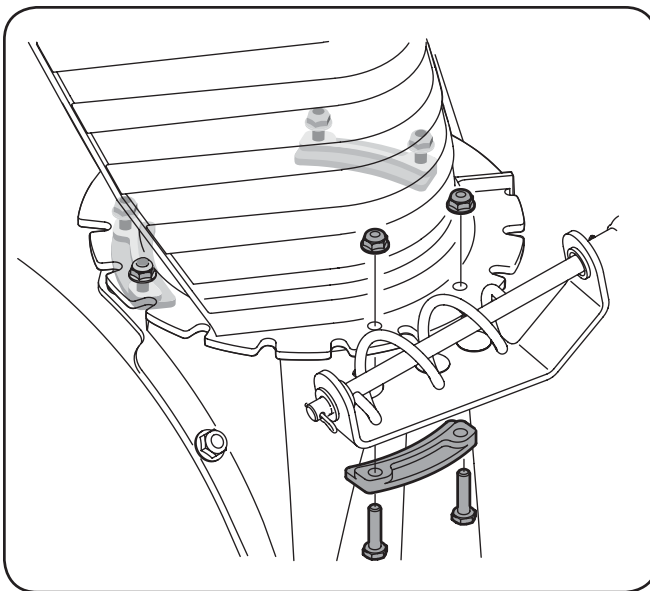

Fig. 3-5
- Remove locknuts and screws securing one of the flange keepers to the chute assembly. See Figure 3-5.